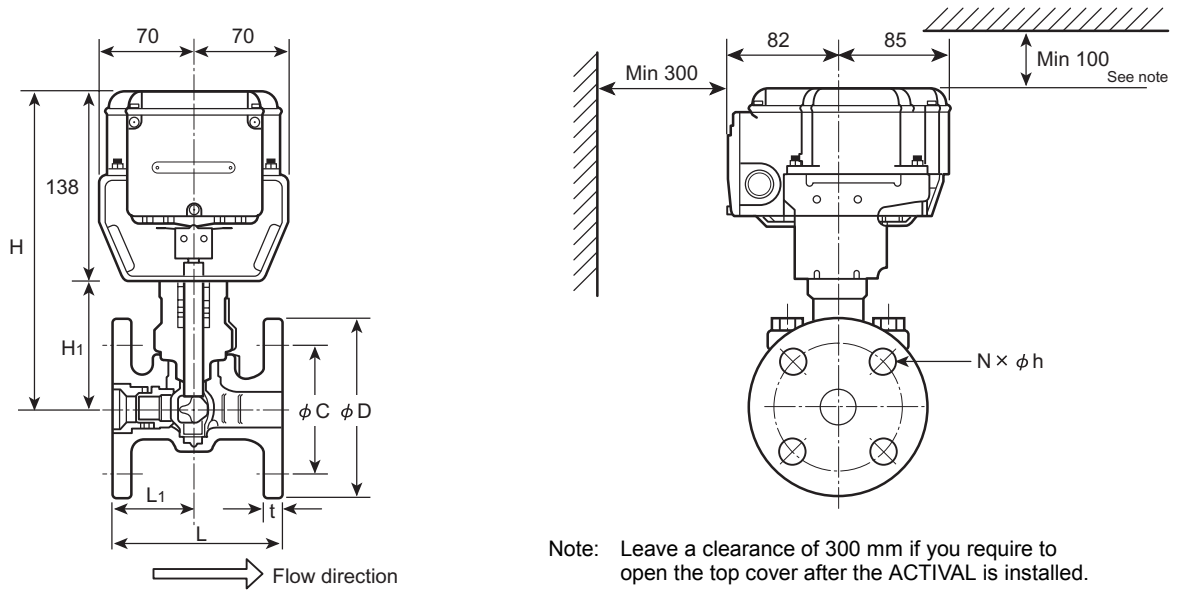

Figure 1. Dimensions (mm): Valve body (JIS FC200)
- 2) Install the ACTIVAL in a position allowing easy access for maintenance and inspection. Figs. 1 and 2 show the minimum clearance for maintenance and inspection. When installing the ACTIVAL in a ceiling space, place a drain pan under the valve.